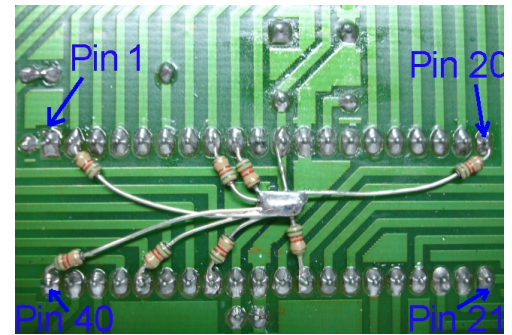

Figure 2
13. Prepare (8) 5.1 K ohm resistors by trimming one lead on each to 1/8 inch in length. This trimmed lead will be soldered to a pin on the 40 pin socket later.
14. Solder the short lead of the 1 resistor to Pin 33 of the 40 pin socket. **Be careful not to make a solder bridge with an adjacent pin.** See figure 2.
15. Solder the long lead of the resistor (in step 14) to Pin 11 of the 40 pin socket and trim lead. **Be careful not to make a solder bridge with an adjacent pin.** See figure 2.
16. Solder the short lead of the 7 remaining resistors to Pins 2, 8, 9, 20, 29, 36 and 40 of the 40 pin socket. **Be careful not to make a solder bridge with an adjacent pin.** See figure 2.
17. Solder the long leads of the 7 remaining resistors to the long lead of Pin 11 resistor. Trim the excess leads. Make sure the resistor leads do not make contact with other pins or traces on the PCB. If they do make contact, a short circuit may occur. See figure 2.